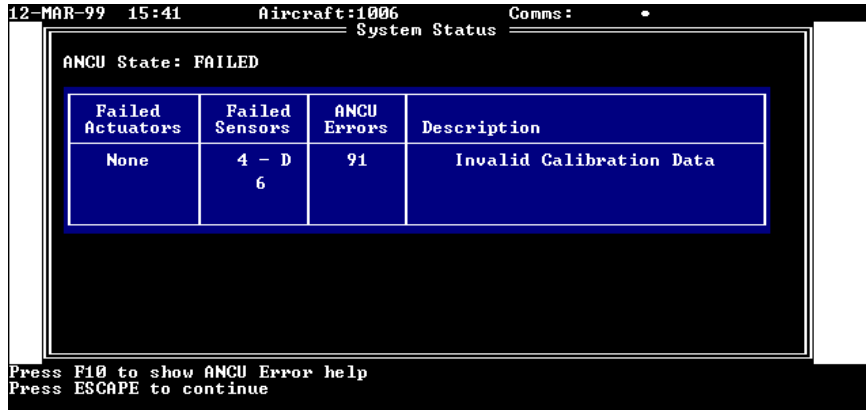

Figure 3.13 – 'System Status' screen.
- (1) Select 'Display System Status' from the 'Main Menu' and press <ENTER>. The MT will show the message “Reading System Status” while the data is read from the ANCU. The 'System Status' screen will then be shown on the MT display (Ref. Figure 3.13).
- (2) Failed Actuator and Sensor Channel numbers are shown. Disabled actuator or sensor channels are shown with a letter 'D'. Any error codes will also be shown with a description of the fault. Press the F10 key for a suggested course of action.